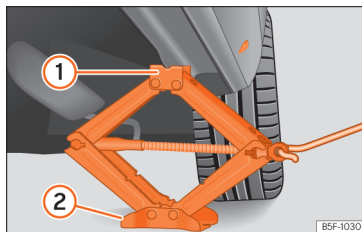

Fig. 243 Crossbar: mounting the jack on the vehicle.
- Turn the jack crank handle, located below the strut support point, to raise it until the tab ① >>> Fig. 243 is below the housing that is provided.
- Align the jack so that the tab ① “grips” onto the housing provided on the cross member and the mobile base ② is resting on the ground. The base plate ② should fall vertically with respect to the support point ①.